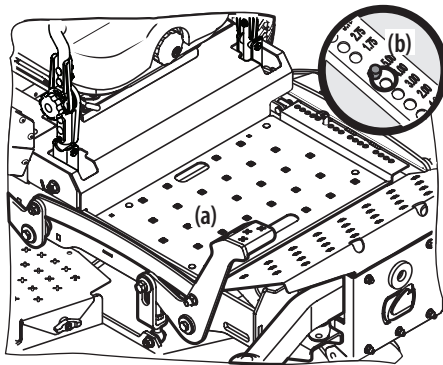

Figure 33
1. Use the deck lift pedal (a) to raise the deck to its highest position, place the clevis pin (b) attached to the mower into the desired index hole on the deck height index, then slowly release the deck lift pedal (a). See Figure 33.